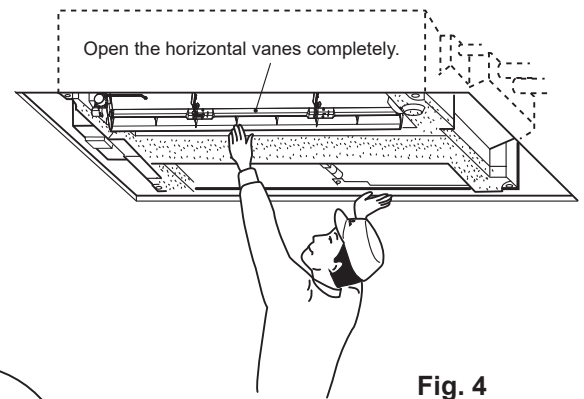

Fig. 4
4. Open the horizontal vanes on the indoor unit completely. (Fig. 4)